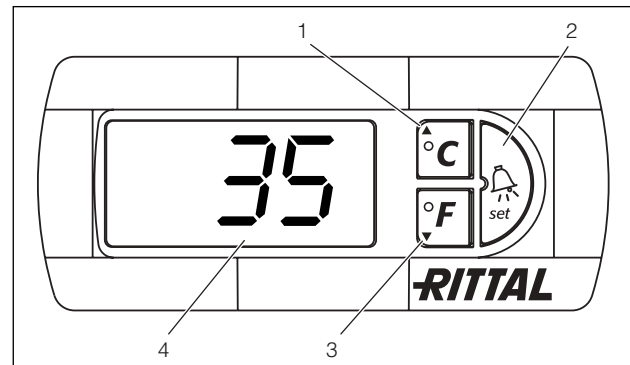

Fig. 19: Comfort controller
The Comfort controller has a 7-segment display (Fig. 19, no. 4). After switching on the power supply, the current software version initially appears on this display for approx. two seconds.
The current enclosure internal temperature is usually displayed permanently. In the event of an error message, this will alternate with the temperature display. The unit is programmed using buttons 1 – 3 (Fig. 19). The relevant parameters also appear in the display.
- Simultaneously press buttons 1 and 2 (Fig. 19) for at least five seconds.
Using buttons 1, 2 and 3 (Fig. 19) you can change 24 parameters within the preset ranges (min. value – max. value).